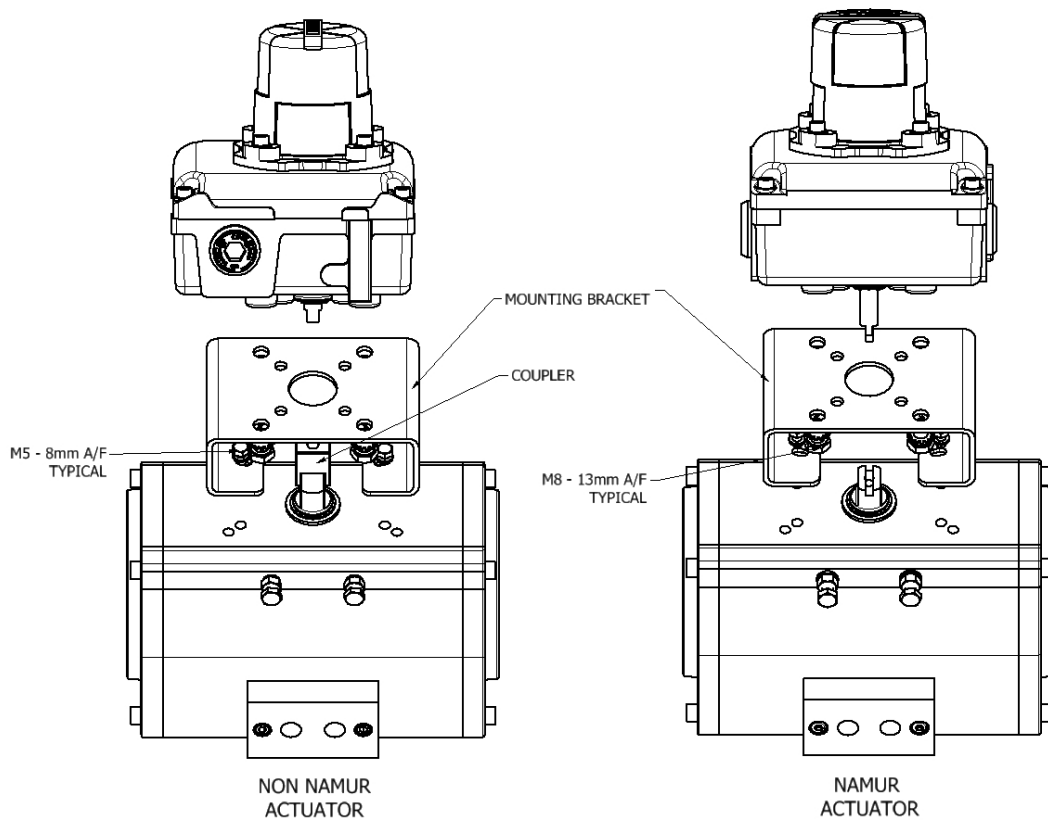

Fig 1
- 4.3 Attach the unit and mounting system to the actuator. See Figure 1.
With the coil first energized, the palm button is then manually moved and latched. The inward movement of the palm button causes the valve to shift. When the coil is de-energized, the palm button and latching mechanism are automatically tripped, allowing the valve to return to its original position. See Fig. 1